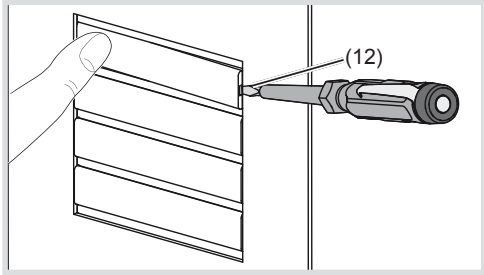

Figure 5: Name plate change
- Position the screwdriver in the lever opening (12) and release the interlock (Figure 5).